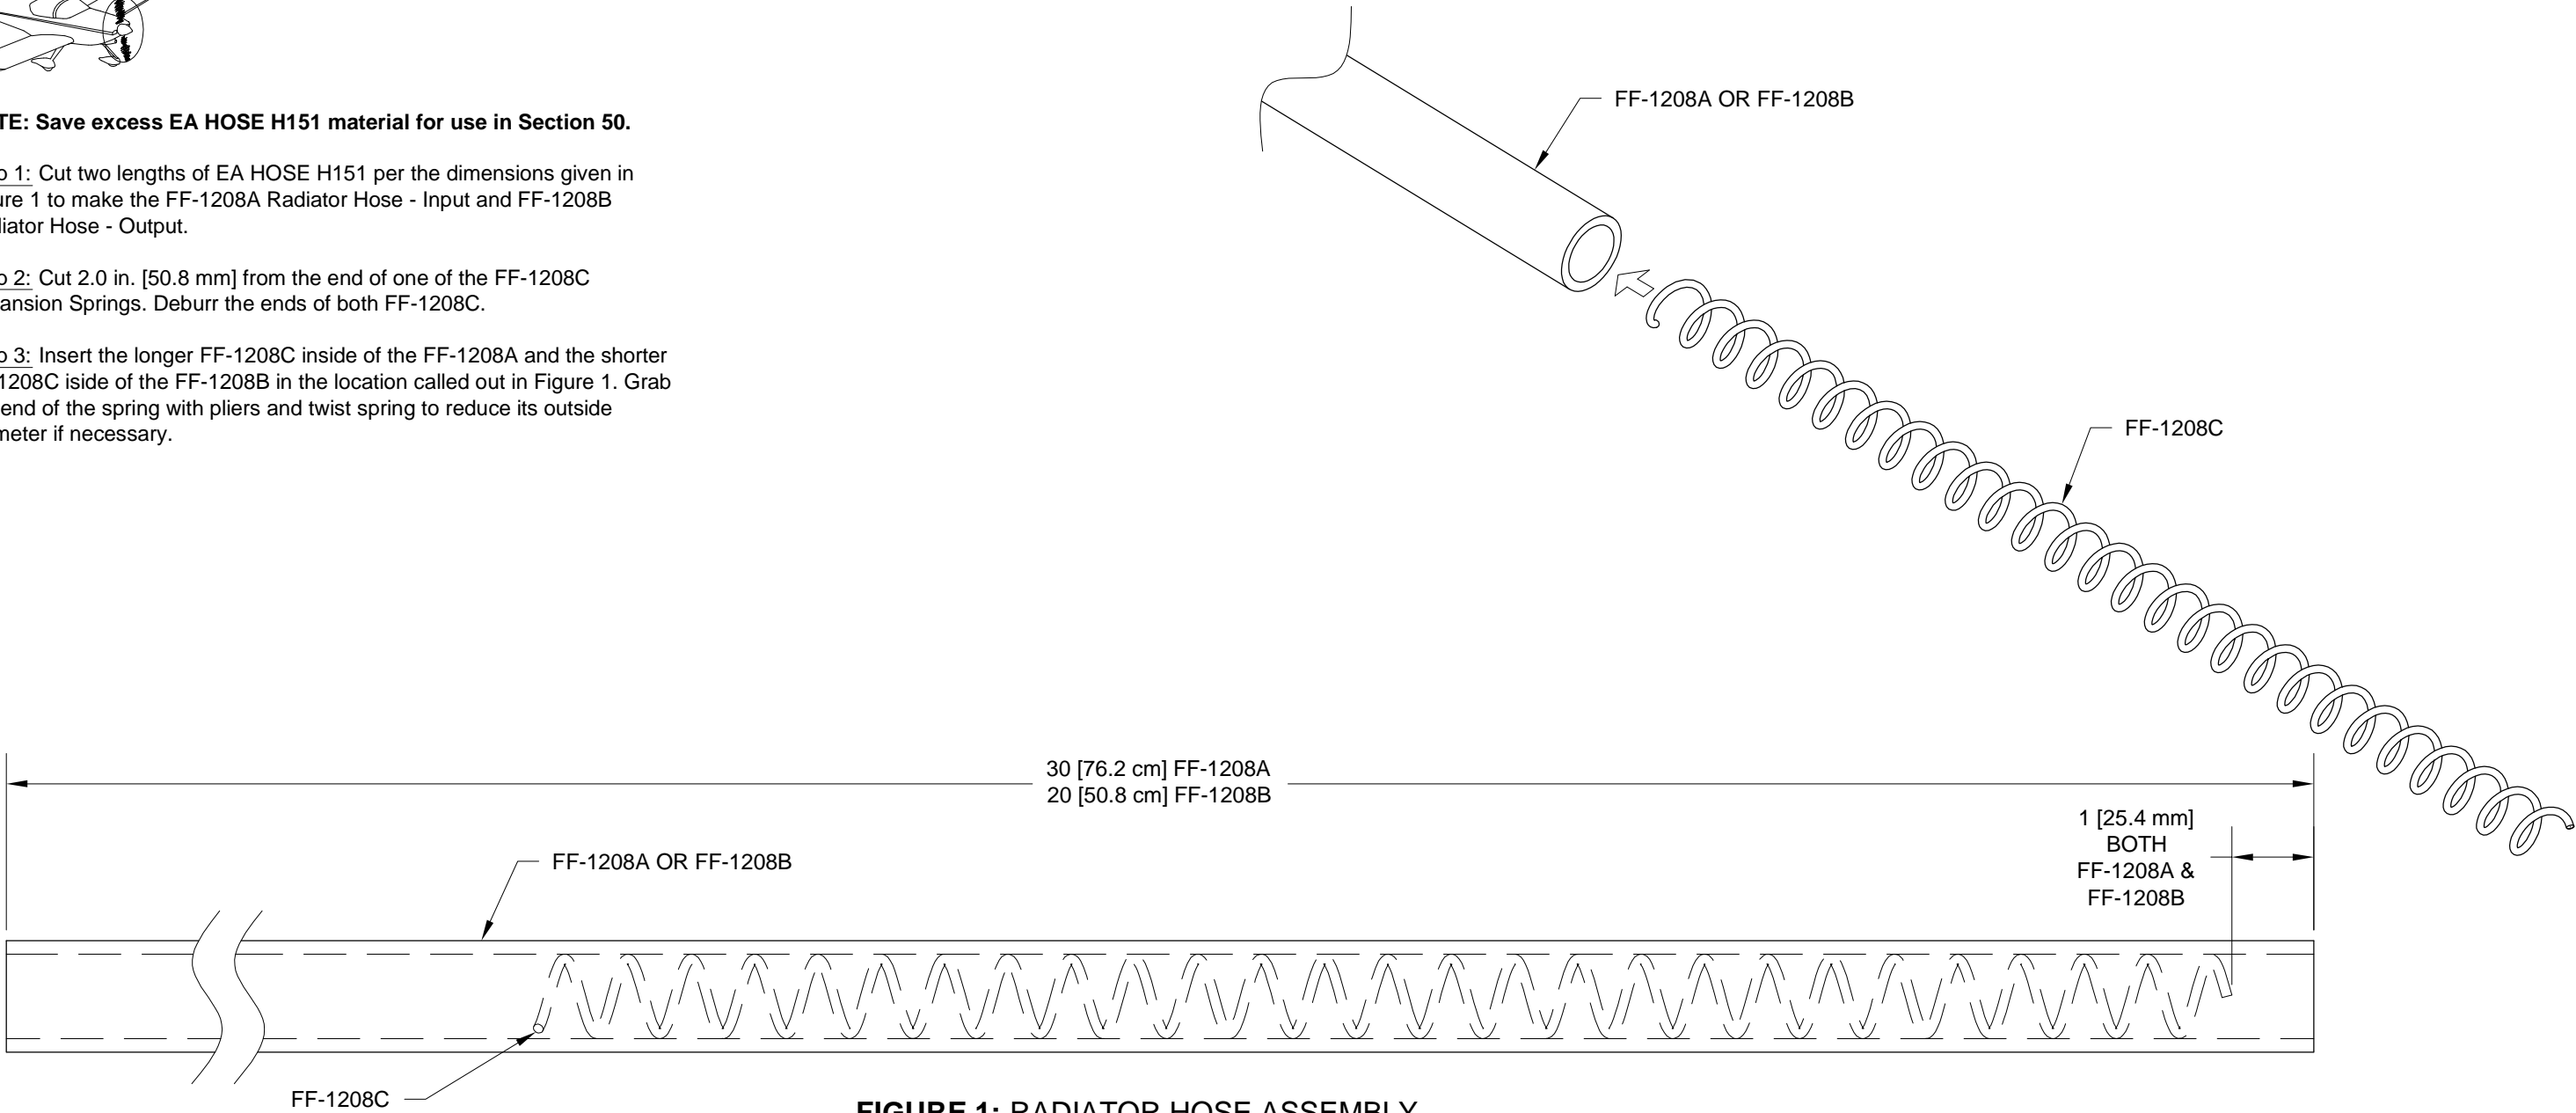

FIGURE 1: RADIATOR HOSE ASSEMBLY
Step 1: Cut two lengths of EA HOSE H151 per the dimensions given in Figure 1 to make the FF-1208A Radiator Hose - Input and FF-1208B Radiator Hose - Output.
Step 3: Insert the longer FF-1208C inside of the FF-1208A and the shorter FF-1208C inside of the FF-1208B in the location called out in Figure 1. Grab the end of the spring with pliers and twist spring to reduce its outside diameter if necessary.